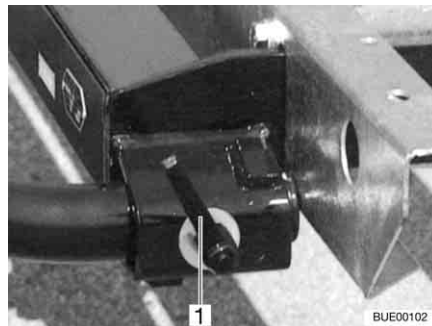

Fig. 5 Quick closure
- Insert the supports on the left and on the right into the holders on the frame and secure them with a quick closure (Fig. 5,1).
- Open the quick closure (Fig. 5,1) and pull the support from the holders on the frame.